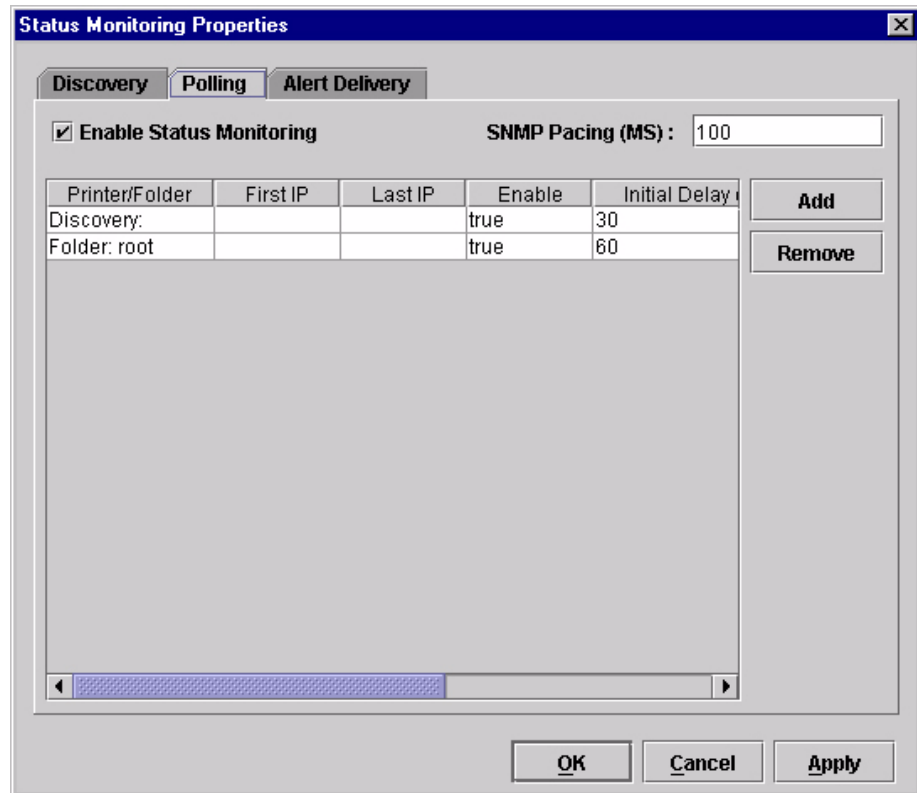

Figure 22. Status Monitoring Properties: Polling Tab
To enable the option, check the **Enable Status Monitoring** check box in the Polling tab (see Figure 22). The SNMP Pacing (MS) value places a delay between each SNMP request. This feature minimizes the network load. By default, the value is set at 100 milliseconds (.1 second).